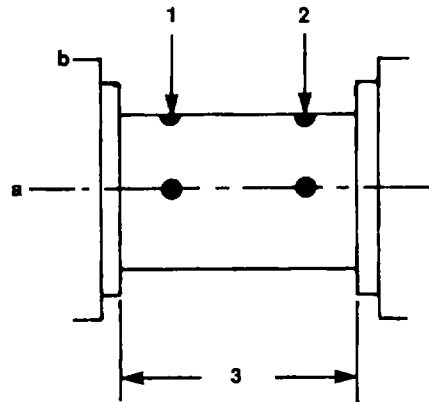

Figure 5-68. Measuring Points on Journal
3. Measure all journals at points 1 and 2, in the vertical and horizontal, as indicated by a and b (figure 5-68).